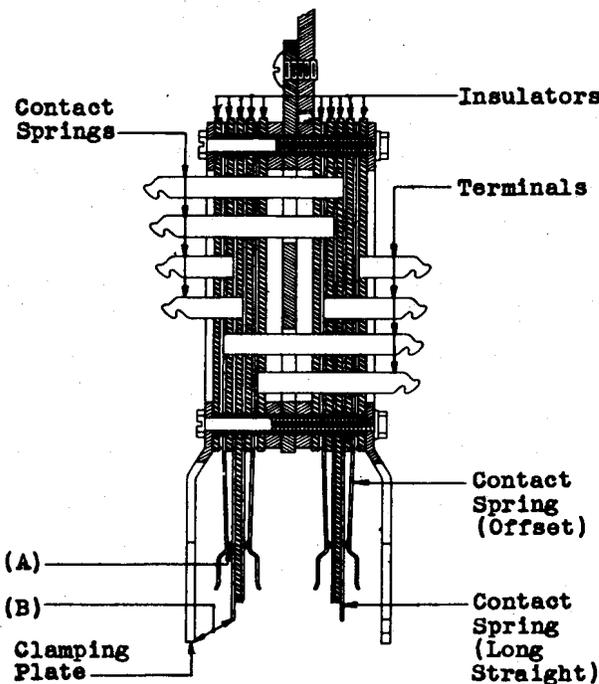

Fig. 1 — Illustrating Cross-Section of 444 Type Jacks
- 2.01 Contact Pressure** — Fig. 1 (A): There shall be a pressure between all closed contacts of
- 2.02 Relation Between Contact Springs and Clamping Plates** — Fig. 1 (B): With the No. 301A test plug or its equivalent inserted over the long straight contact springs and the associated clamping plate, the contacts shall open.